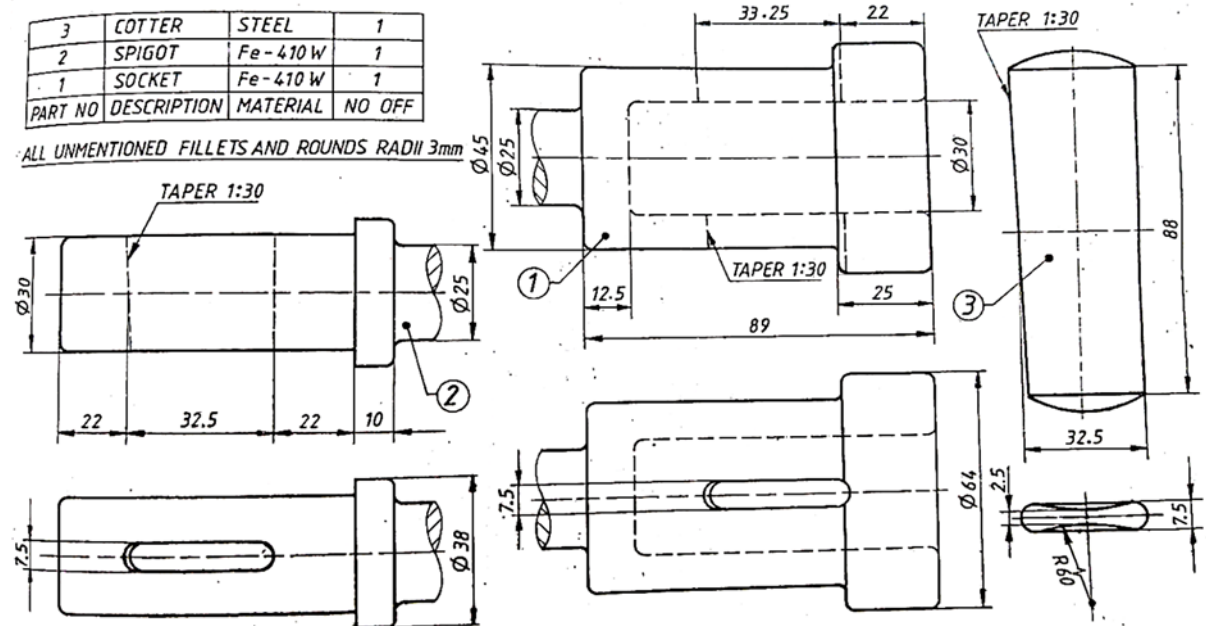

Figure 10.5: Details of Socket and Spigot Joint
10.5 Create a 3D assembly model of Socket and Spigot Joint, part drawings are shown in Figure 10.5. Generate front view, top view, left side view and isometric shaded model view of assembly.